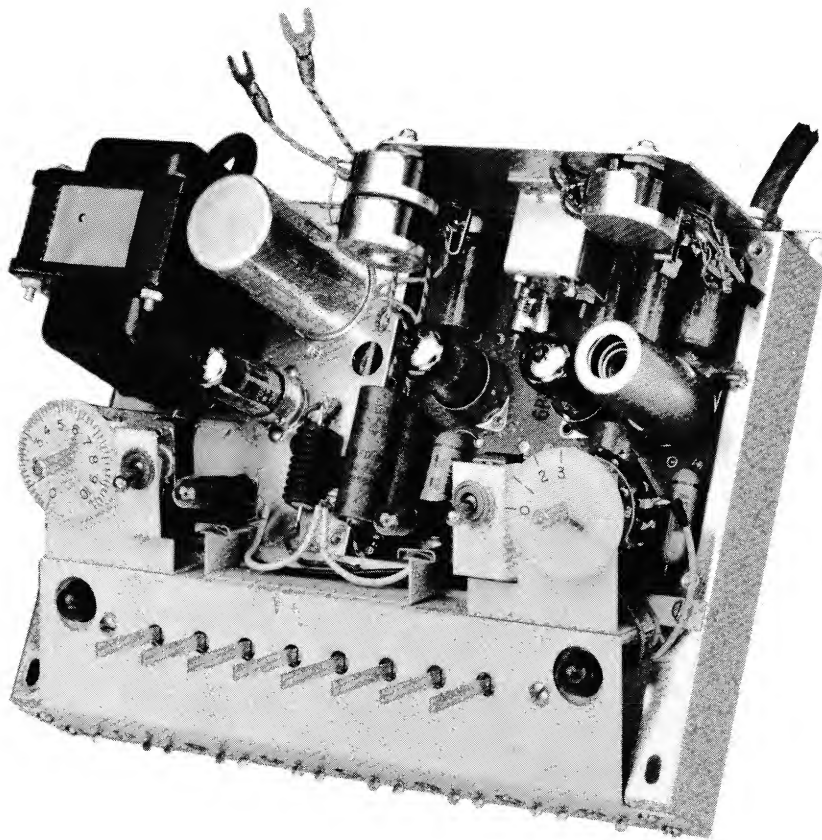

Fig. 6: Top view of Chassis - Case removed.
- e. Remove case by upward and forward motions (don't go so far that the meter leads become taut (see Fig. 6).